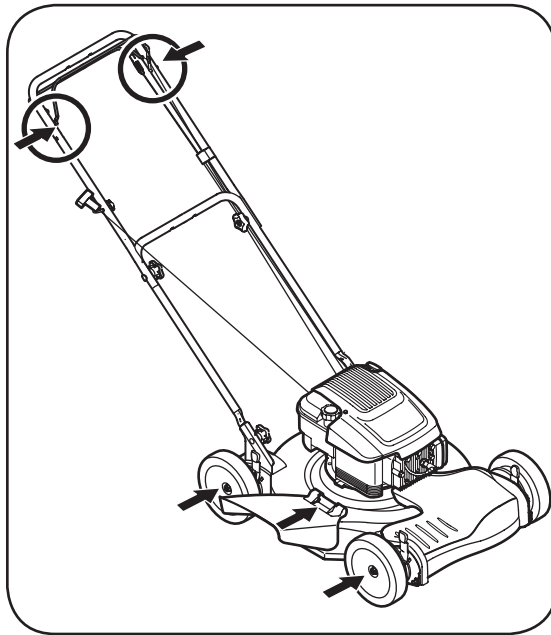

Figure 5-1: Lubrication areas.
1. Lubricate pivot points on the blade control and drive control at least once a season with light oil. These controls must operate freely in both directions. See Figure 5-1.
2. Lubricate the wheels at least once a season with light oil (or motor oil). If wheels are removed for any reason, lubricate surface of the pivot arm and inner surface of the wheel with light oil. See Figure 5-1.
3. Lubricate the torsion spring and pivot point on each end of the side mulching baffle/ chute deflector periodically with light oil to prevent rust. See Figure 5-1.